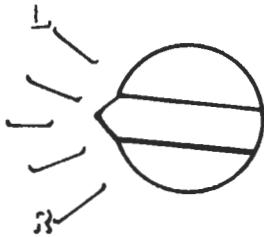

FIGURE 31. INITIAL START ADJUSTMENT
1. Set main power mixture to position shown in Figure 31.
2. Run engine at maximum throttle and normal load for ten minutes, or set main power mixture near mark between L and R as shown in Figure 31.
1. Run engine at open throttle for normal maximum rpm for ten minutes or set main power mixture at mark between L and R as shown in Figure 31.